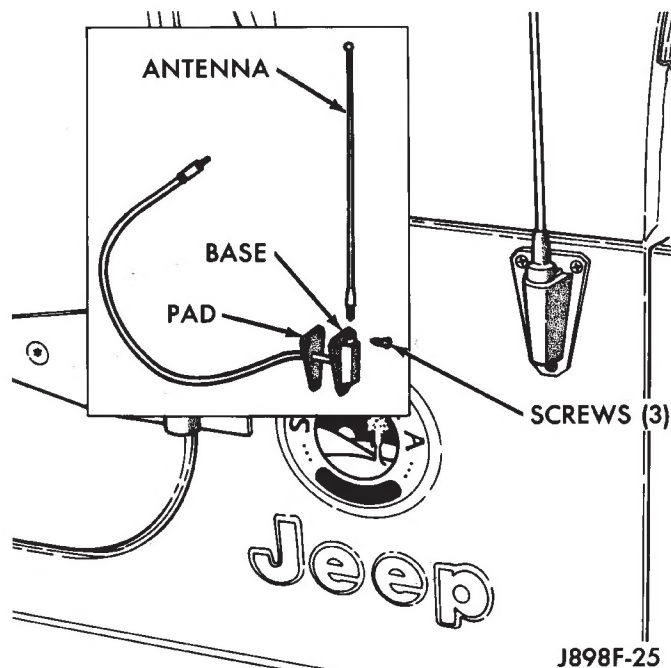

Fig. 21 Antenna Remove/Install - YJ
(1) Remove the radio. See Radio Remove/Install, in this group for procedures.
(2) Remove three screws holding the antenna base and pad to the body (Fig. 21).
(3) Pull the antenna and cable out of the vehicle.